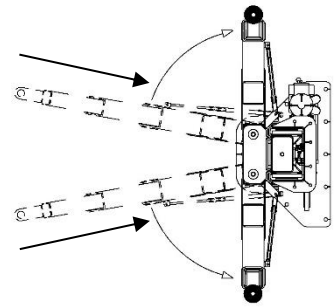

FIGURE 16 : SWING ARMS POSITION
- 2. RETRACT THE EXTENSION OF THE SWING ARMS TO THE MINIMUM AND OPEN AS FAR AS POSSIBLE TO CLEAR THE SPACE BETWEEN THE COLUMNS. SEE **FIGURE 16**.
- 13. RETRACT THE EXTENSION OF THE SWING ARMS TO THE MINIMUM AND OPEN AS FAR AS POSSIBLE TO CLEAR THE SPACE BETWEEN THE COLUMNS. SEE **FIGURE 16**.
1. RETRACT THE EXTENSION OF THE SWING ARMS TO THE MINIMUM AND OPEN AS FAR AS POSSIBLE TO CLEAR THE SPACE BETWEEN THE COLUMNS. SEE **FIGURE 16**.